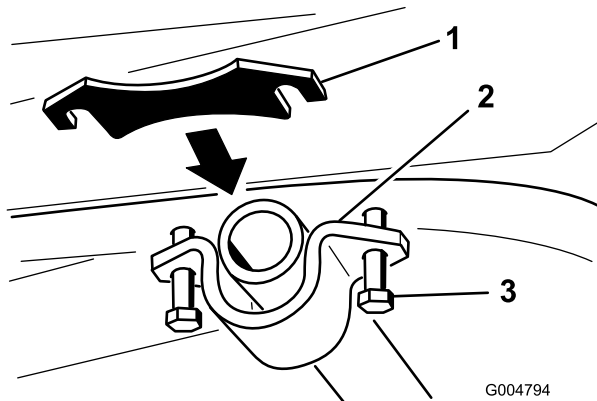

Figure 22
- Loosen the bolts that secure the pivot tube bracket to create an opening between the frame and the pivot tube bracket (Figure 22).